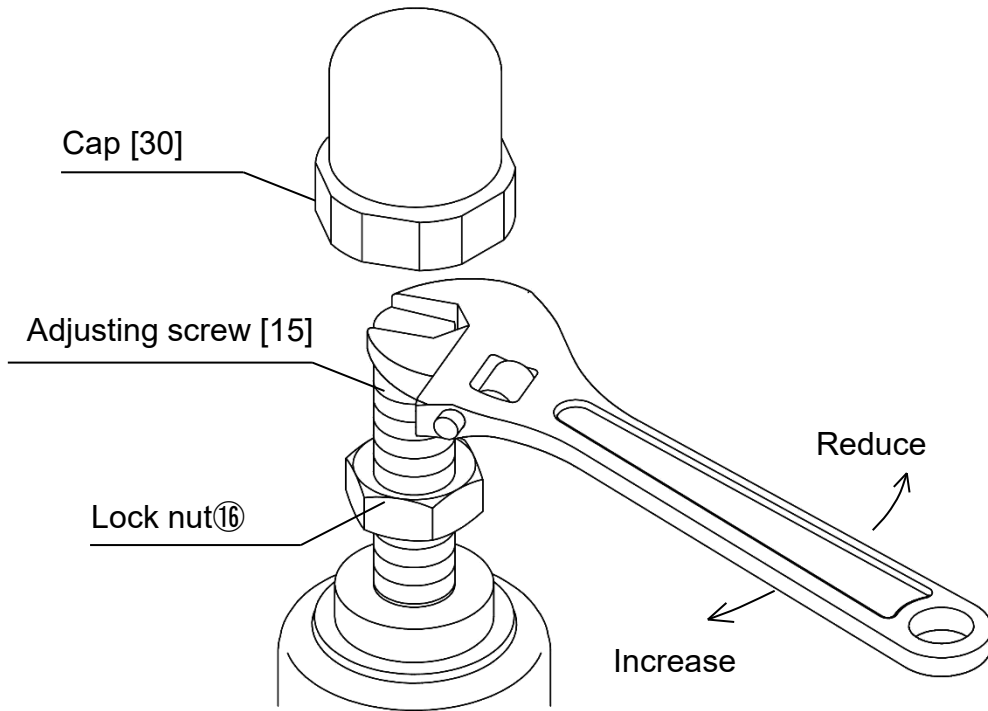

Fig. 10
- (1) Before leading fluid into the product, close the stop valves at the inlet and outlet of the product and remove foreign substances and scale from the piping completely by using a bypass line.
- (2) To adjust the set pressure, turn the adjusting screw slowly.
- (3) If closing outlet side of the product and keeping fluid inside the product for an extended period, sliding parts become stuck and it causes malfunction of the product.
- (4) If there is a possibility of freezing or the product is not used for an extended period, completely discharge fluid from the product and pipes, and close the stop valves at the inlet and outlet sides of the product.
- (5) If the systems have been out of service for a long time, please perform the following operational checks before restarting the systems.
- Check if the set pressure changes when turning the adjustment screw (see Fig. 10).
- (6) The set pressure may be affected by ambient temperature (external temperature) and fluid temperature. Install pipes so that the product may not be exposed to direct sunlight.
- (7) Follow the steps below, and slowly turn the adjusting screw to set pressure. Incorrect adjustment may cause hunting, water hammer, etc., resulting in damage to the valve and other equipment.
- (1) Close the stop valves at both sides of the valve, and thoroughly purge the system through the by-pass line. When completed, be sure to close the by-pass valve.
- (2) Loosen the lock nut [16] (see Table 8).
- (3) Slowly open the inlet stop valve, then fully open the outlet stop valve, allowing a trickle to be discharged.
- (4) Slowly turn the adjusting screw [15] (clockwise to increase, counterclockwise to reduce) while observing the pressure gauge on the inlet side (see Fig. 10).
- (5) After the adjustment, tighten the lock nut [16] and the cap [30].